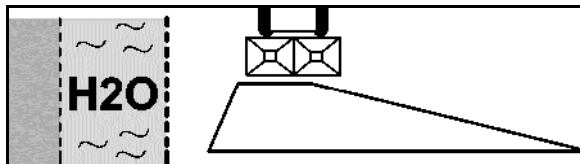

Fig. 32
2. Ditch spreading in accordance with fertiliser ordinance (Fig. 32):